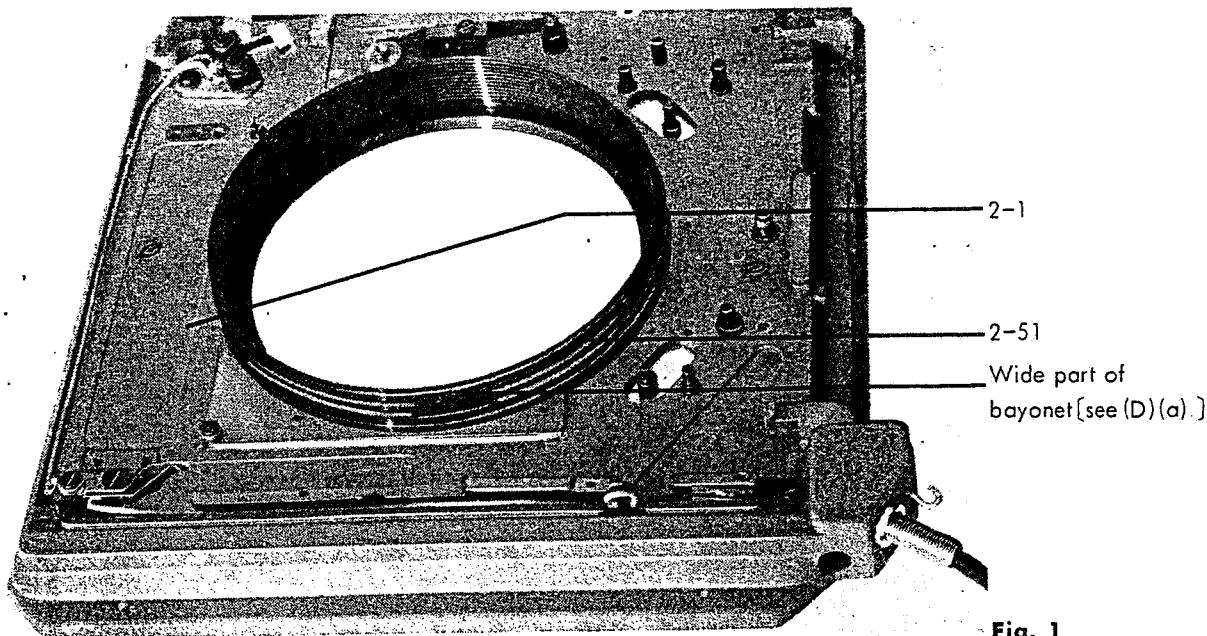

Fig. 1
(a) When sector ring assembly **2-47** is assembled into base plate assembly **2-1**, together with lens mounting tube **2-51**, sector ring assembly **2-47** should be smoothly functioning within the working range without catches or creaks. Since this greatly affects the shutter speed, close attention is required as stated in (B) (b) (1) and (B) (b) (2). The assembling position of lens mounting tube **2-51** and base plate assembly **2-1** is at the wide part of the bayonet of lens mounting tube **2-51**, as shown in Fig. 1.